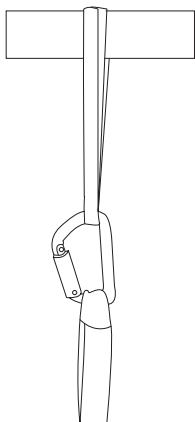
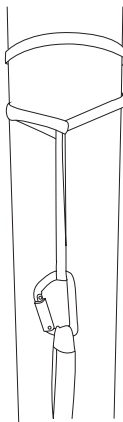
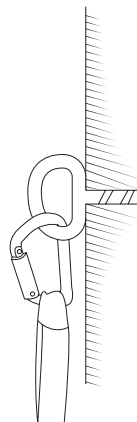
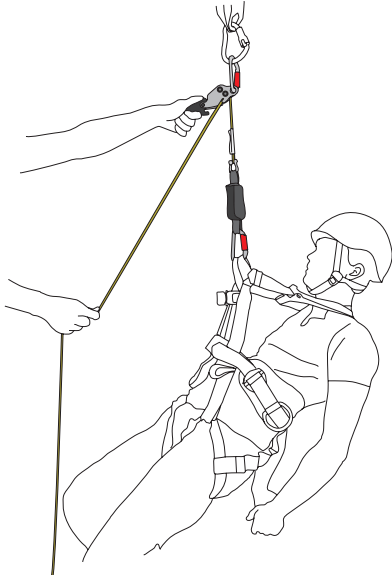

Fig. 1A: Horizontal anchor
Fig.1B: Vertical anchor
Fig. 1C: Fixed structural anchor
Fig. 4
2. Place the anchor sling around a structure and into the karabiner fig. 1A.
If the anchor sling is placed around a vertical construction, detach the sling and place it twice around the pole and through itself again. Then attach the karabiner as shown in fig. 1B. Ensure that the anchor sling locks in place. Fig. 1C show how to attach the karabiner to a fixed structural anchor EN795 cl.A.
4. Detach the karabiner from the anchor sling. Place the anchor sling around a structure and into its karabiner as shown in fig. 1A or fig. 1B. The anchor must be able to support a load of 12 kN (EN795). Attach the **SMARTLINE X** as shown in fig.4.